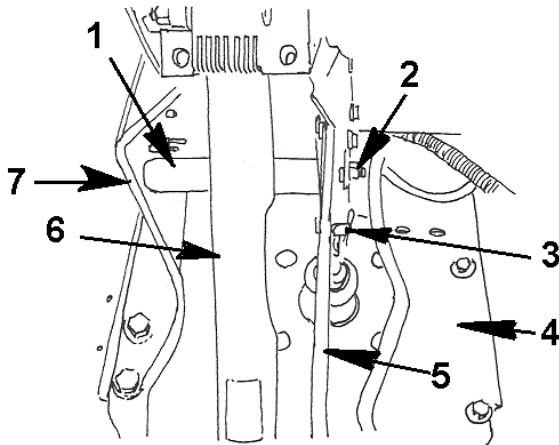

Figure 80 Brake Pedal Attachment Assembly
1. Locate the retainer pin and clip on the brake pedal arm (Figure 80, Item 3).
3. Loosen and remove mounting nut (Figure 106, Item 3) securing the pivot bar on the steering column mounting bracket (Figure 80, Item 7).